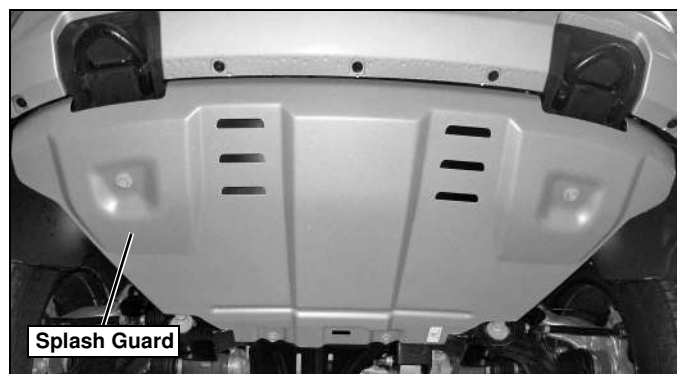
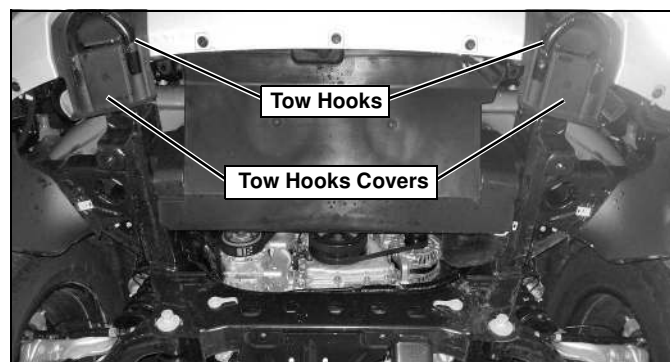

Figure 1
Figure 2
1. Remove the Splash Guard (See Figure 1), Tow Hook Covers, and Tow Hooks (See Figure 2). Keep the Tow Hook bolts for installing the Subframe. Everything else can be kept for re-installation if Subframe is ever removed.